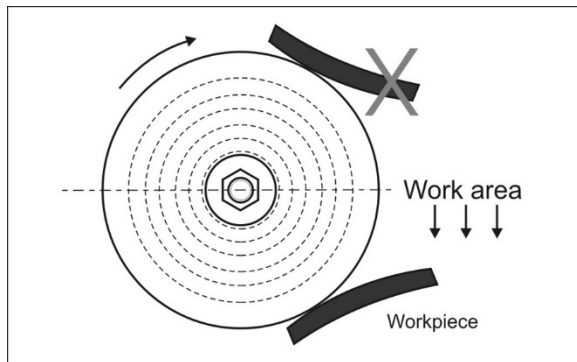

Figure 8-1
2. Grip workpiece firmly and press it against *underside* of wheel, that is, the area of wheel that is rotating away from the workpiece. See Figure 8-1.